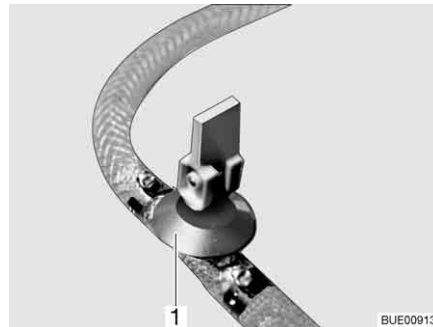
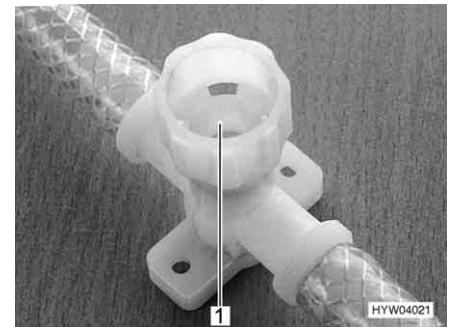

Fig. 203 Drain cock (with rocking lever)
Fig. 204 Drain cock (with twist cap)
- Open all drain cocks. To do this, position the drain cock's rocking lever (Fig. 203,1) vertically or turn the drain cock's cap (Fig. 204,1) in an anti-clockwise direction.